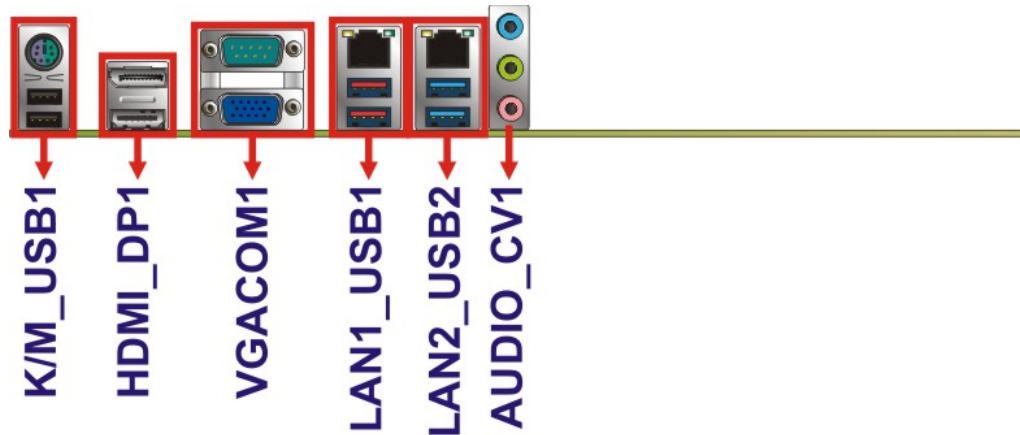

Figure 3-33: External Peripheral Interface Connector
CN Location:	See Figure 3-33
- CN Location:** See **Figure 3-33**
CN Location: See **Figure 3-33**